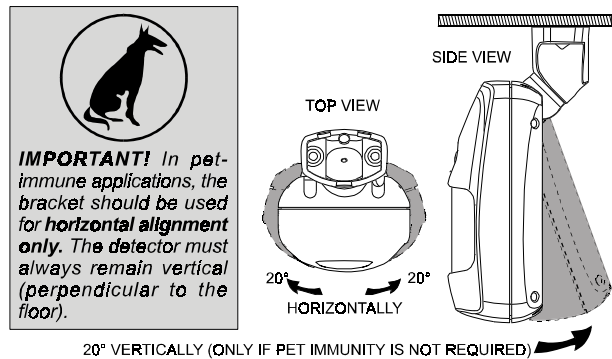

Figure 7. Tilt/Swivel Limits
- H. Swivel the detector horizontally to face the desired direction, but **do not tilt it** if this is a pet immune application. However, if pets are not present it is advisable to tilt the detector as much as 20° down. Figure 7 shows the tilt/swivel possibilities.